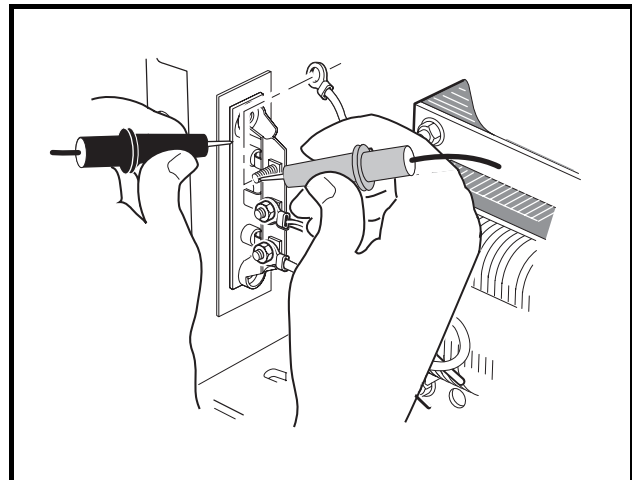

Figure 3-22 Diode Test – Probes Reversed
5. Reverse test probes and check each diode again and note the reading (**Figure 3-22, Page 3-23**). A diode is designed to conduct current in one direction only. If a diode conducts current (shows continuity) in both directions, the entire heatsink with diodes must be replaced. If a diode does not conduct current (does not show continuity) in either direction, the entire heatsink must be replaced.